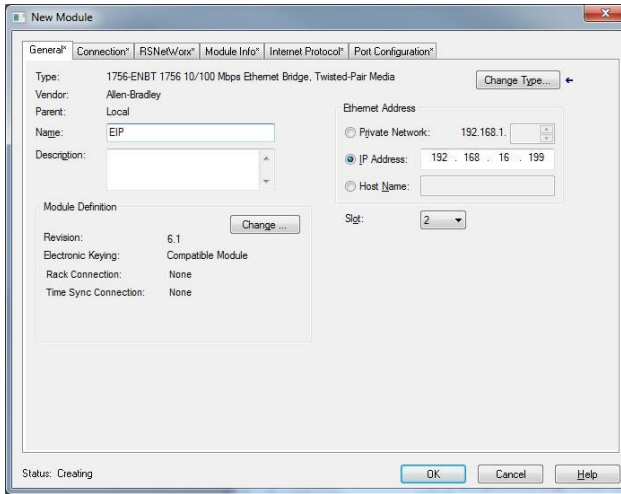

Figure 26: Identifying the New Module
- 6) The “New Module” window will open. Refer to Figure 26.